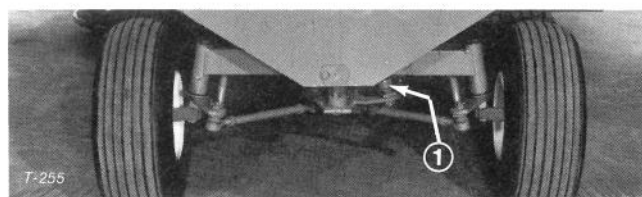

Figure 40
1. Remove cotter pin and slotted nut from tie rod end that connects steering tube to steering plate (Fig. 40). Separate tie rod end from plate.
12. Slide tie rod end at end of steering tube through steering plate, and secure parts together with slotted nut (Fig. 40). Tighten nut until it is tight and holes in nut and tie rod end line up. Then install cotter pin through nut and tie rod end.